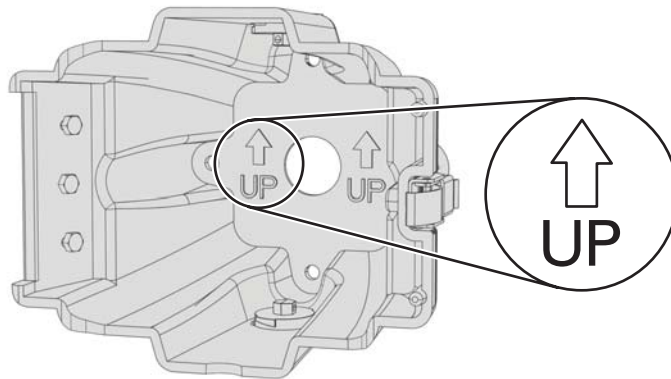

Figure 9. J-Box Orientation
3. Orient the J-box so that the arrows and the word UP are pointed up (refer to Figure 9).